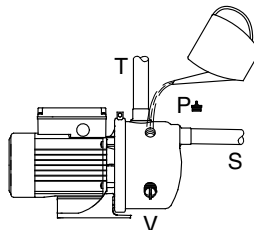

Fig. 1 Ejector valve
Remove the plug (V), see fig. 1, and fit the ejector valve into the hole.